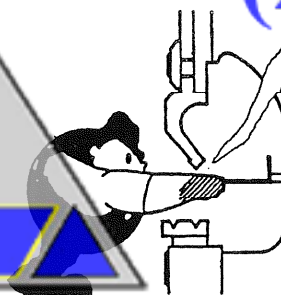

Figure 2.17
- No part of your body must enter the hazardous area during bending operations (Fig. 2.17).